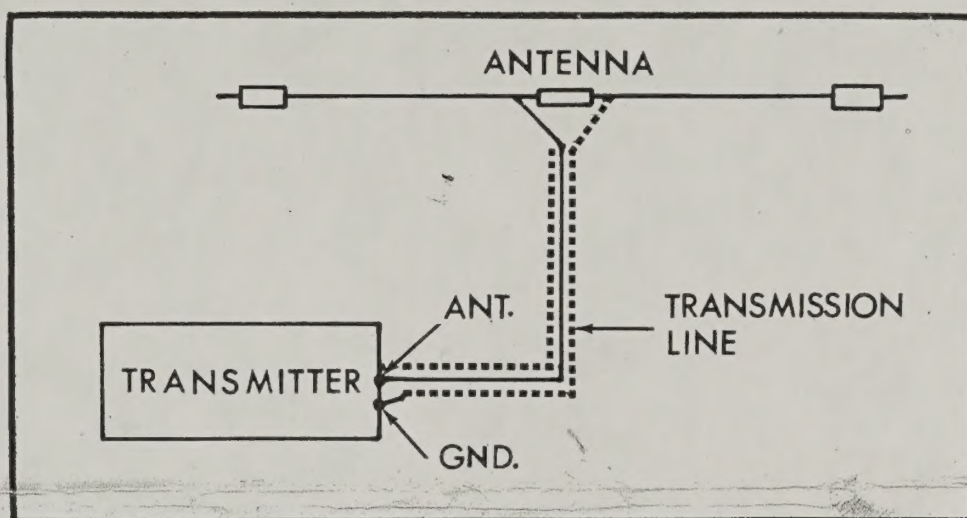

FIGURE 6: HALF-WAVE DIPOLE ANTENNA
13. Another type of antenna that can be used with this transmitter is the Half-Wave dipole antenna. This is shown in Figure 6. The transmission line can be #RG-59U and it can be of any length. The inner conductor of the transmission line is connected to the Antenna terminal of the transmitter and the metal braid of the transmission line is connected to the Ground terminal. At the antenna, the inner conductor is connected to one side of the antenna and the braid is connected to the other side. The total length of the antenna (not including the transmission line) should be 65 feet for 40 meters and 125 feet for 80 meters. The center insulator should be exactly in the middle of the antenna. While the random length wire antenna can operate properly for both 40 and 80 meters, you must use separate antennas for the two bands when using the dipole type of antenna of Figure 6. In either case, the antenna should be as high as possible. See Antenna Handbook or AARL Handbook for other suitable antenna systems.